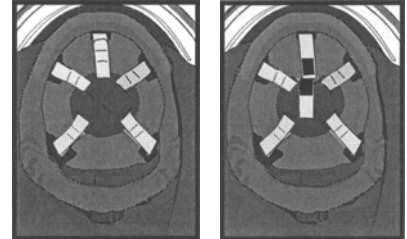

FIG. 8
C. Center of Gravity Adjusting Suspension (Fig. 8)